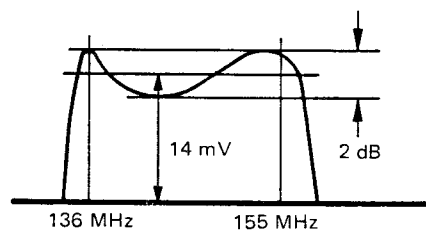

Figure 2
- (3) Tune the receiver to 136.000 MHz, set the sweep generator center frequency to 145 MHz, and adjust T8006 – T8010 for the passband waveform shown in Figure 2.